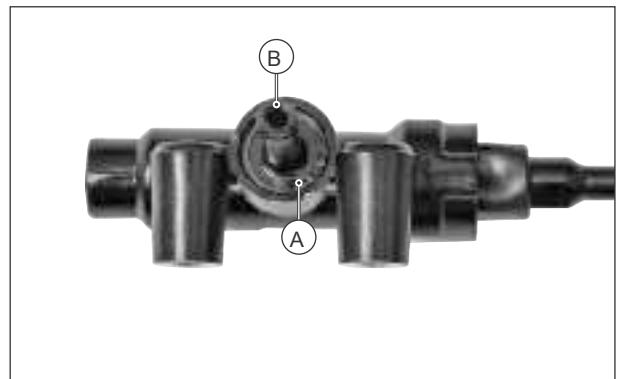

Fig. 6.126
- By firmly holding master cylinder housing, remove the circlip (A) by using circlip plier. (Fig. 6.126)
- Take out insert (B) from the master cylinder assembly. (Fig. 6.126)